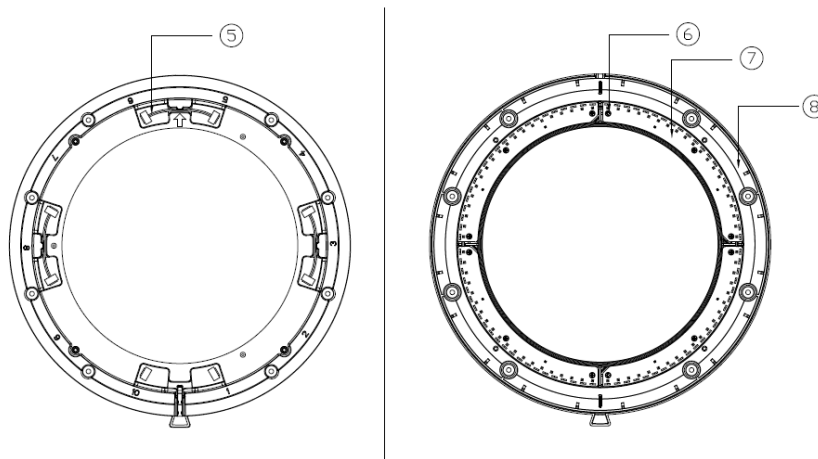

Figure 11-2
As shown in Figure 11-2, remove the 3 DuPont cables⑤ from the back of the Main Body Support-Down, remove the 12 screws⑥ from the front, and remove all illumination board⑦(RVM100-ILL-WHITE) and the Main Body Support-Down⑧(RVM100-MBS-DW). The specification of the screw is the self-tapping screw, ST2*6mm.